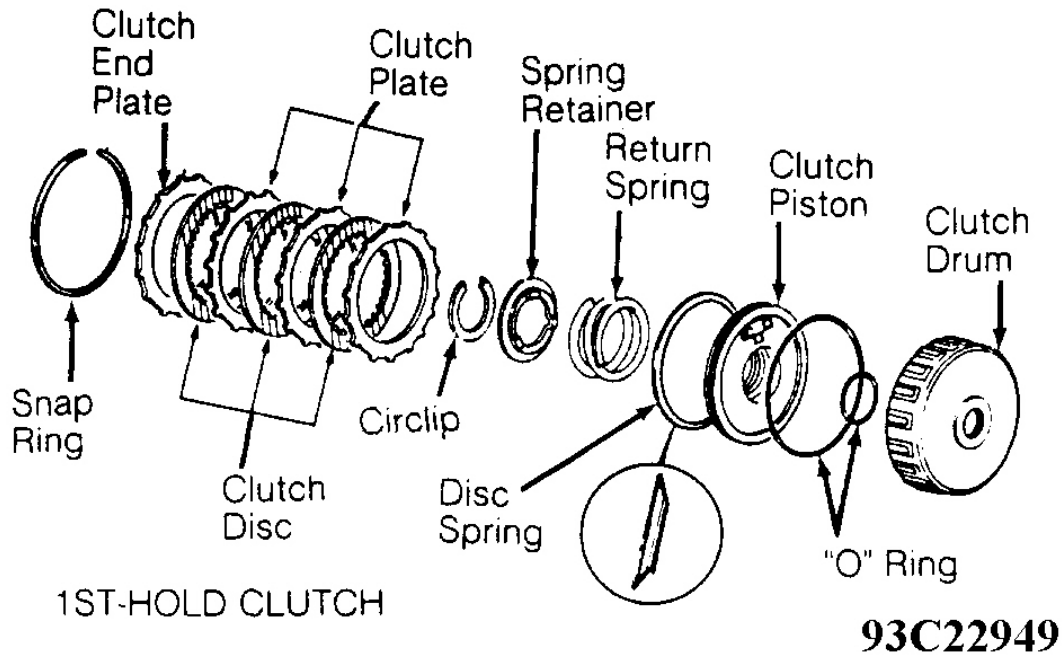
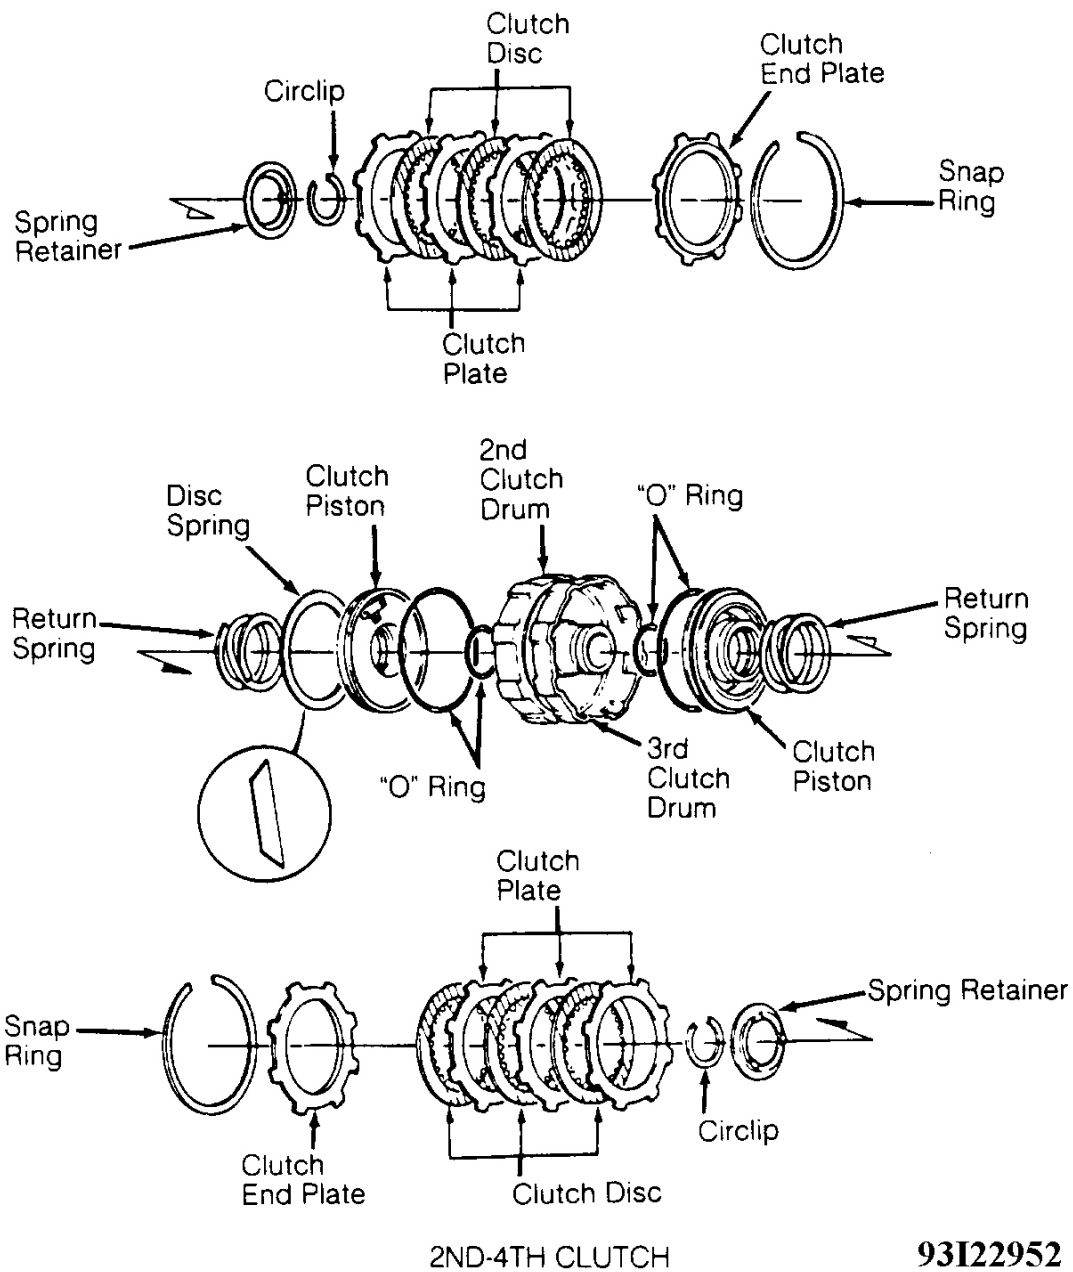

Fig. 25: Exploded View Of Clutch Assemblies (1 of 4)
Fig. 28: Exploded View Of Clutch Assemblies (4 of 4)
1. Remove snap ring, clutch end plate, clutch discs and clutch plates. See **Fig. 25 -Fig. 28** . On 1st-hold and 2nd clutches, note direction of disc spring installation. Remove disc spring.
3. Install disc spring on 1st-hold and 2nd clutches. Ensure disc spring is installed in proper direction. See **Fig. 25 -Fig. 28** .